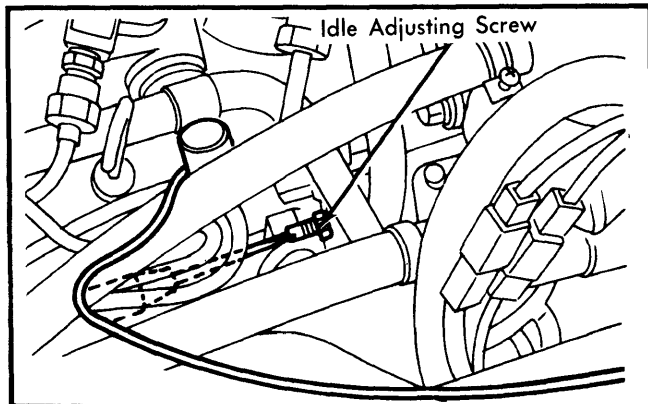

Fig. 11 Location of Idle Adjusting Screw
3) If adjustment is required, loosen the idle adjusting screw lock nut on idle adjusting screw. Turn screw until proper idle RPM is obtained. Tighten lock nut. See Fig. 11.